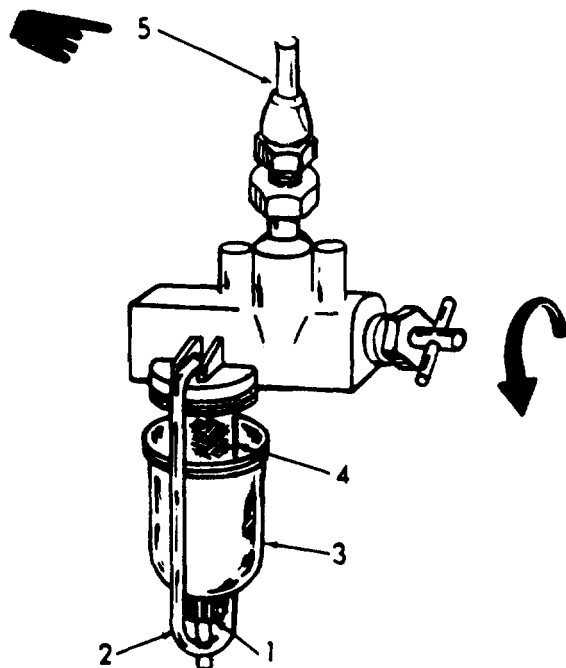

Figure 4-2. Fuel Line and Filter Removal,
(1) Refer to figure 4-2. Loosen finger nut (1) on yoke (2) of fuel filter. Swing yoke upward and remove fuel bowl (3) and unscrew filter (4).
(2) Disconnect fuel line (5) from tank and fuel filter.
(3) Disconnect fuel filter from engine fuel pump.
Using figure 4-2 repeat the removal procedure in reverse sequence.